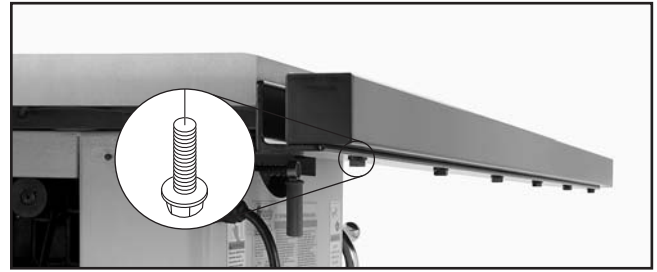

Figure 19. Fence tube installed on front rail.
15. Install the fence tube on the front rail with six M8-1.25 x 10 flange bolts, as shown in **Figure 19**.